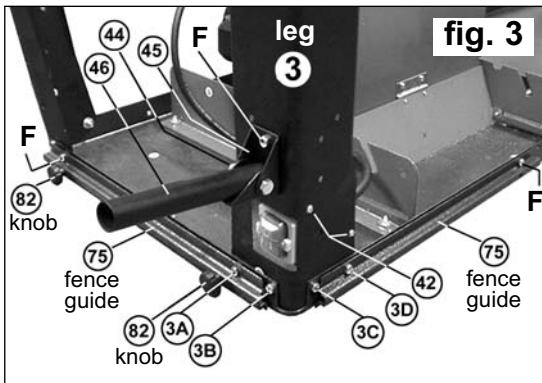

fig. 3
- 4.2 Match leg 3 to the corresponding numbered label attached to the side of the main table (See fig.3.) Use only sets of fixings at positions 3A and 3B at this stage. The other two fixing points will be shared with the fence guides which are fitted later.
- 4.3 Mount the switch unit to leg 3 using two self tapping screws (ST4. 2x13mm as indicated at '42' in fig.3).
- 4.12 Attach a fence guide (part no.75) to the short table edge between legs 3 & 4. The guide shares the inner fixings of the adjacent legs. Use one set of fixings at position 3A in fig.3 and one set of fixings at position F. In addition to the two set of fixings used, a rubber washer (part no.83) should be inserted between the inside face of the guide and the edge of the table. These fixings should only lightly compress the rubber washers.
- 4.13 Insert two M6 x 30 square necked bolts from the inside edge of the table so that they protrude through the fence guide in both positions 82 as seen in fig.3. Attach a small plastic knob to each protruding bolt.
- 4.14 Attach the other fence guide (part no.75) to the long side of the table edge adjacent to the switch leg. One end of the guide shares the fixing of leg 3 (see position 3D in fig.3) and the other end should be fixed at position 'F' with a single set of fixings. No rubber washers are fitted to this guide.
- 4.21 **Attaching the transit handles.** The transit handles need to be assembled to legs 3 and 4 as shown in fig.3. Take the two brackets (part no.45) and bolt one to each leg using two sets of fixings for each one. Slide each handle (part no.46) into the bracket and retain it with an M8 x 50mm pivot bolt (part no.44) and locknut.